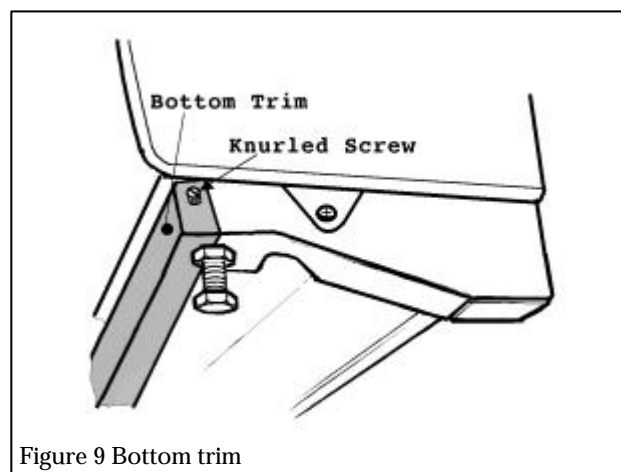

Figure 9 Bottom trim
- 5.3.1** Fit the bottom trim using the two knurled screws to secure it to the side feet (see figure 9)